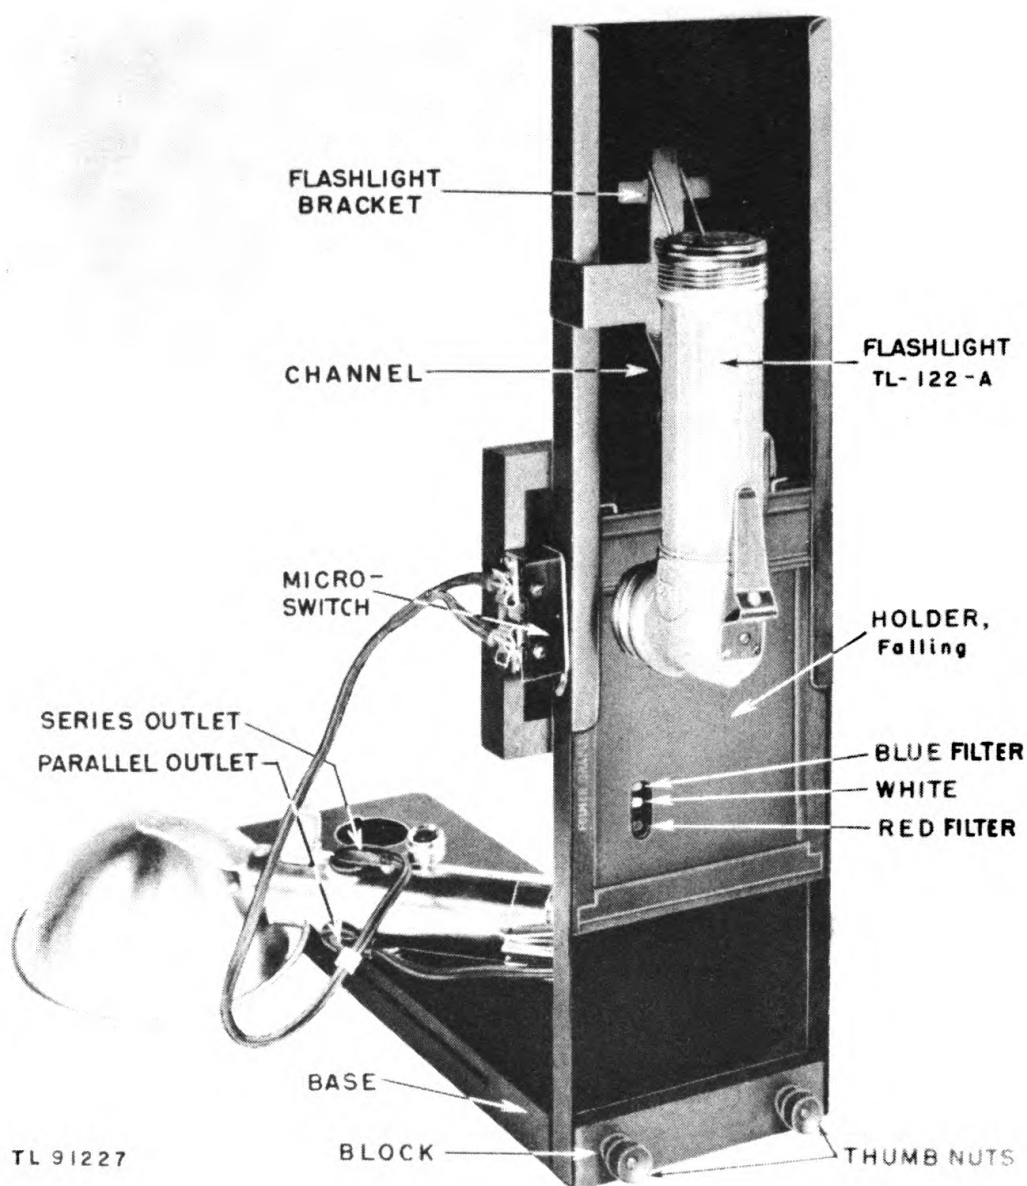

Figure 5. Timer PH-191-A, back view.
a. Base (fig. 5). The wooden base has a hole in one end, which holds the battery case of the synchronizer being tested. At the other end of the base is a movable block, which holds the channel in a vertical position when the thumbnuts are tightened.
b. Channel (fig. 5). (1) The steel channel is designed to hold a lens-board frame in position on the front, and to guide the film holder so that it makes contact with a microswitch located on the right side. A bracket on the back supports the flashlight in relative position to the shutter being tested. On the side of the channel, opposite the microswitch, is a pressure